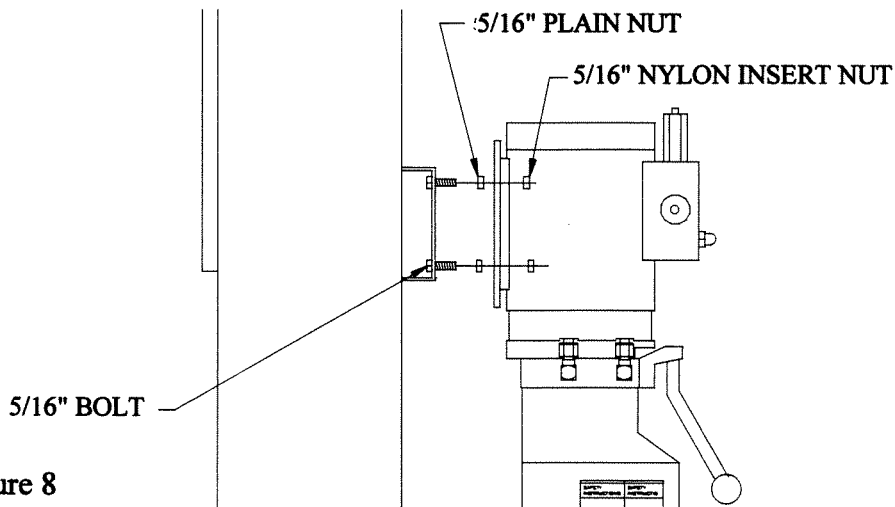

Figure 8
22. Refer back to Figure 8 below. Install the power unit on the mainside leg using the 5/16" hardware provided. The power unit has two ports on its left side. The port on the left is the return port. Attach a 3/8" male pipe to 3/8" male JIC 90 elbow to the return port. Attach a 9/16 O-ring to 3/8" male JIC 90 elbow to the pressure port.